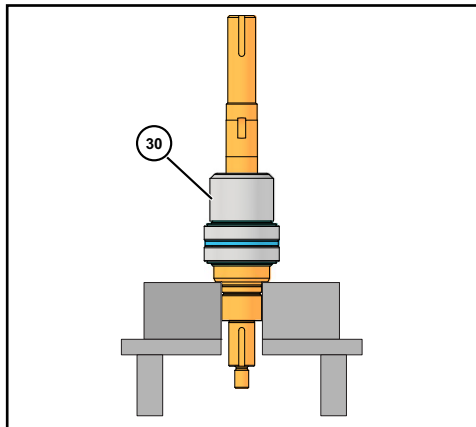

Figure 51 - Install Bearing Spacer
9. Install the bearing spacer (Figure 51, item 30).